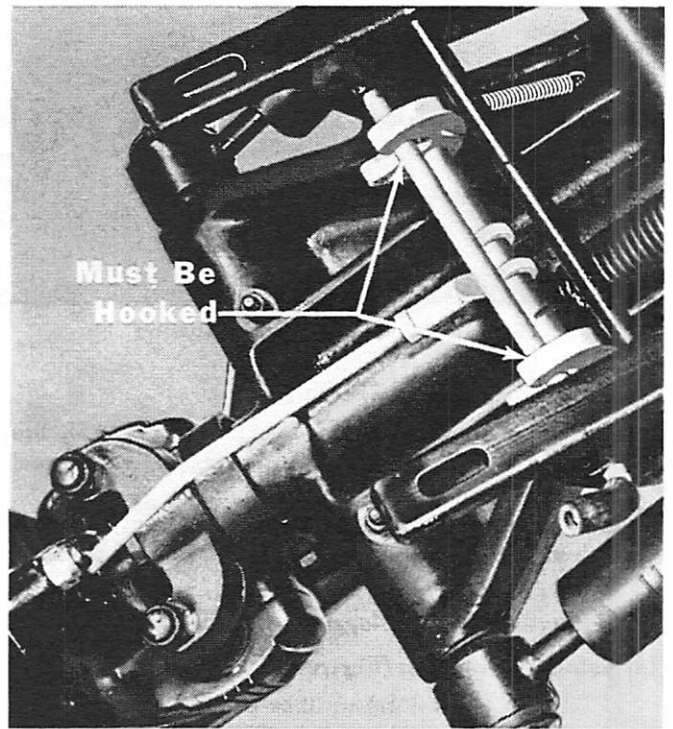

Figure 7. Latch Hooks Position in Reverse Gear
7. Check in neutral and reverse gear positions and make sure that reverse latch is hooked in both positions when tilting. (Figure 7) To check, pull back on lower unit, and reverse latch hook must be positioned against tilt pin as shown in Figures 7 & 8.